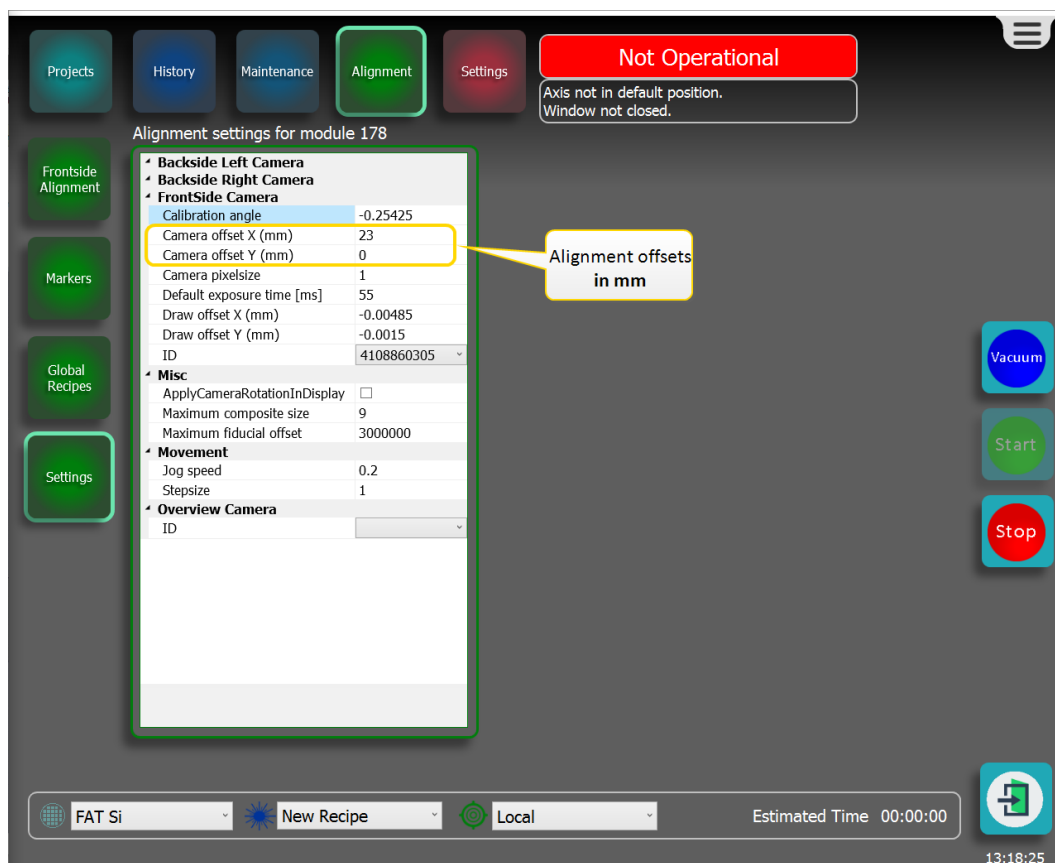

Figure 3-133 Global alignment offset values
3. At **Misc**, find the Camera offset values, see **Figure 3-133 on the facing page**.